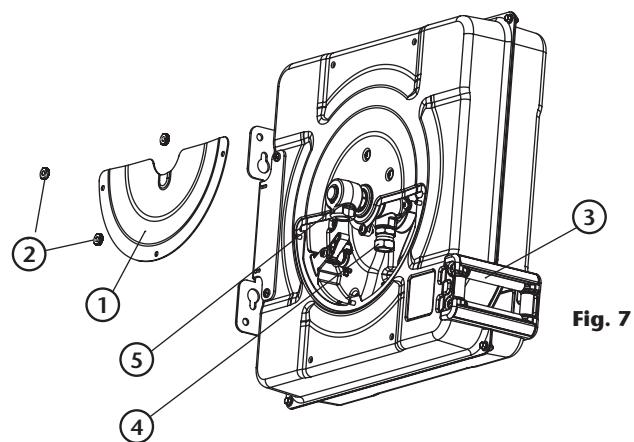
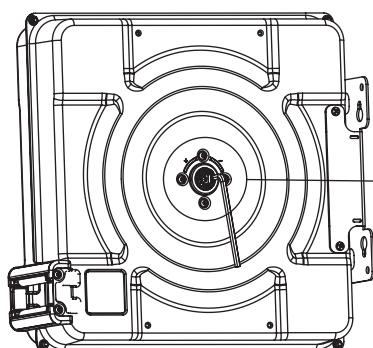

Fig. 7
Fig. 8
4. Disassemble the service lid (1) (fig. 7) loosening the plastic nuts (2) (fig. 7). Tools are not required to loosen these nuts.
5. Introduce the hose end (the opposite one of the hose stopper) through the rollers outlet (3) (fig. 7), and put it through the spool window, to be able to connect it to the hose reel fitting (4) (fig. 7). The casing has a wide window to facilitate the task. When tightening the fittings, beware not to place too much stress over the plastic spool, because it could be damaged.
6. Once the hose is connected to the fitting (4) (fig. 7), introduce an Allen key (7 mm between faces) inside the brass hexagon (2) (fig. 8), and turn this key to turn the spool in positive direction, following the indication stamped on the casing (4) (fig. 8). In this way, step by step, the hose will be coiled and the power spring will not get tension. When the hose stopper touches the rollers (3) (fig. 7), stop turning the spool.
7. Take away the Allen key (1) (fig. 8), and replace it with a square key (1) (fig. 9). Turning this key, the spring fixation (2) (fig. 9) will turn (the spool will keep static) and the power spring will get tension.
8. Apply the pre-tension to the power spring as shown in Table 1, by means turning the tool in positive direction, following the indication stamped on the casing (4) (fig. 8).
11. Assemble the service lid (1) (fig. 7) using the plastic nuts (2) (fig. 7). Do not apply too much torque, because you could damage the nuts thread. No tools required for this operation.
2. Disconnect the old hose from the reel fitting (4) (fig. 7), and take away the hose stopper.
4. Introduce the new hose end (the opposite one of the hose stopper) through the rollers outlet (3) (fig. 7), and put it through the spool window, to be able to conect it to the hose reel fitting (4) (fig. 7).
2. By turning the tool in negative direction, following the indication stamped on the casing (4) (fig. 8), the power spring will loose force. By turning the tool in positive direction, the power spring will gain force. Add or subtract turns as you need allways having in mind to leave a minimum of 2 pre-tension turns and a maximum pre-tension turn which avoid to exceed the spring total allowed turns.
3. Block the spool using appropiate tools. If not, it is recommended to block the spool using an Allen key 7 mm between faces (1) (fig. 8) introducing it inside the brass hexagon (2) (fig. 8), through the Tensor piece (3) (fig. 8). You can also move the hose stopper (fig. 5) to a new position, where the latch can be seen through the service window when the hose stopper touches the roller outlet.